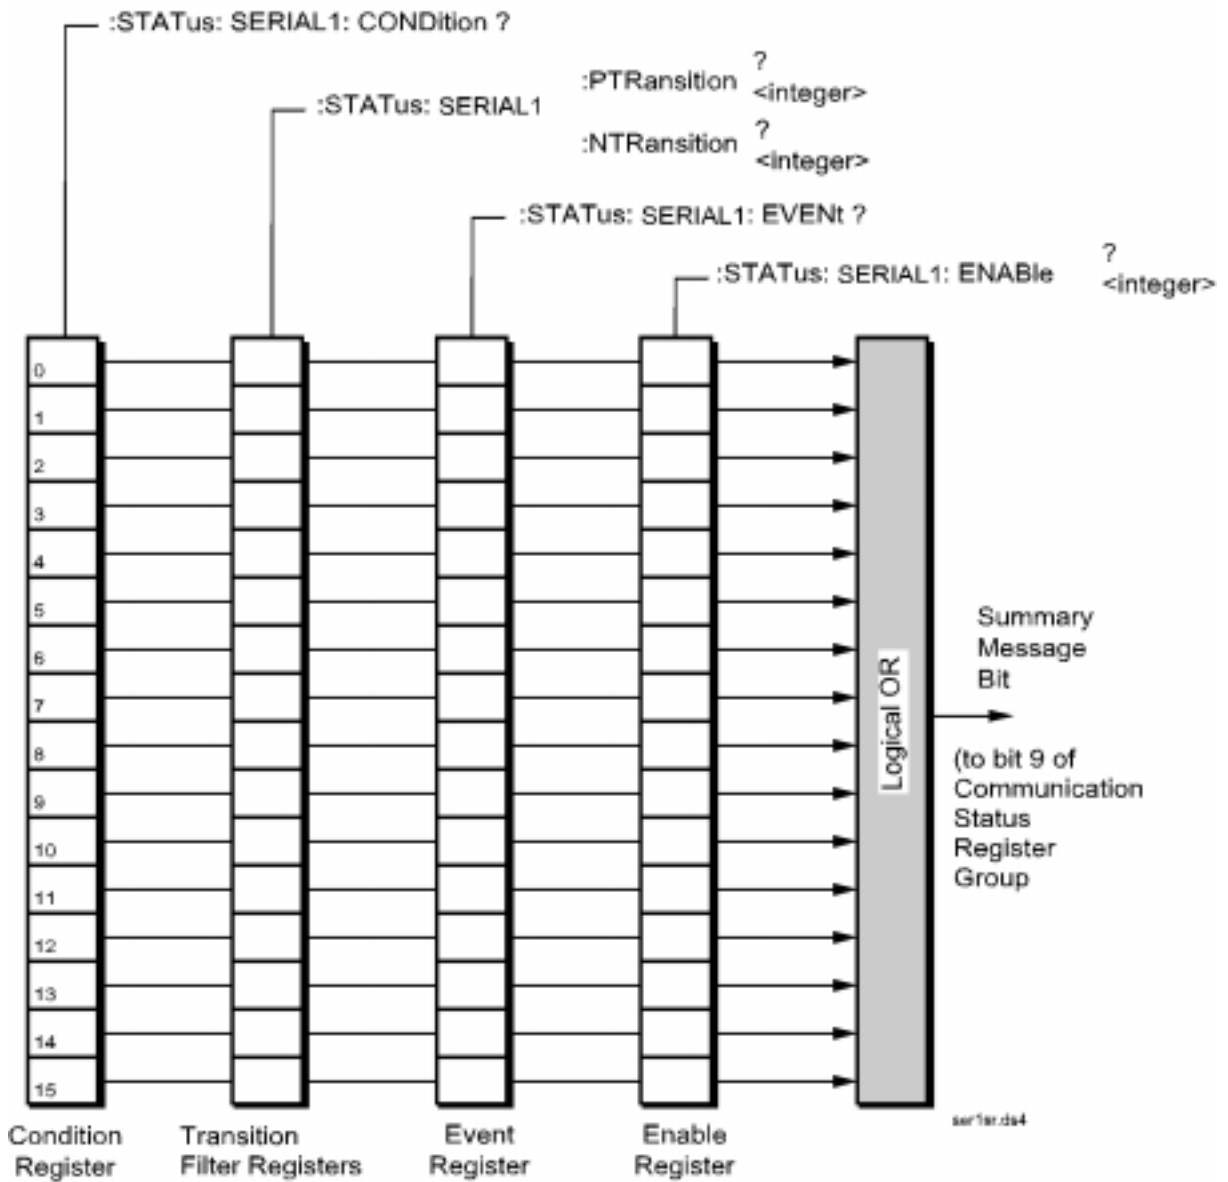

Figure 26 Serial 1 Status Register Group
**Figure 26 on page 186** shows the structure and STATus commands for the Serial 1 Status Register Group.